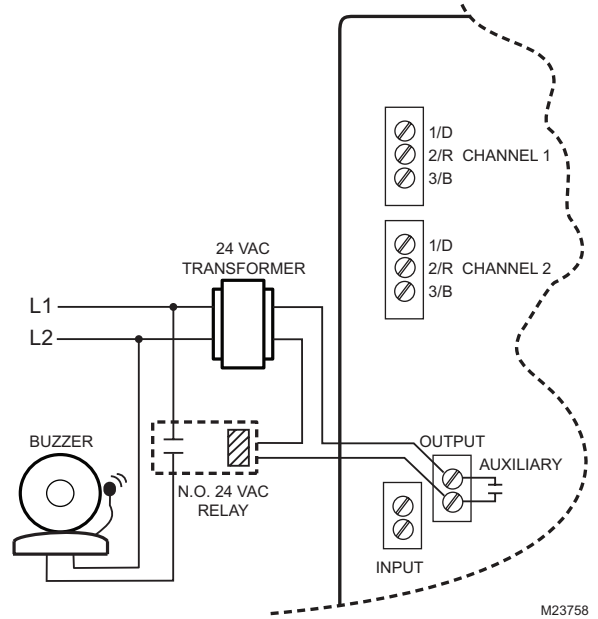
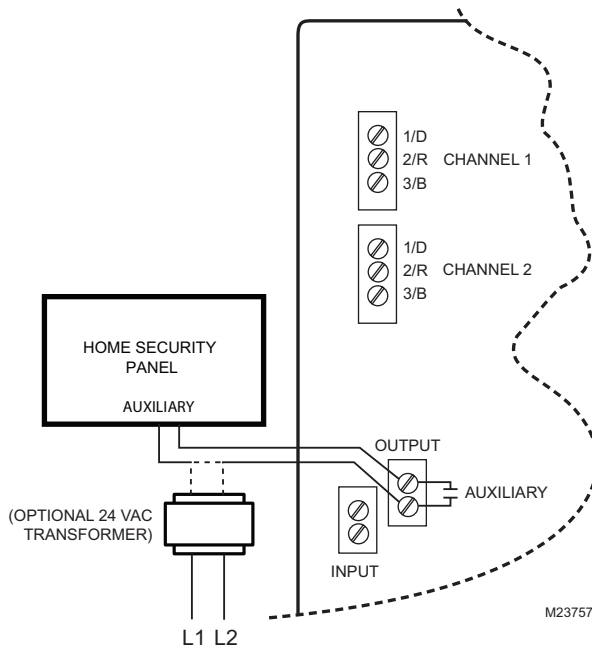

Fig. 17. Wiring the AUX-OUT Terminal Block to Line Voltage Annunciating Device (Buzzer).
Fig. 16. Wiring the AUX-OUT Terminal Block to a Home Security Panel.
The Auxiliary Output closes in the event an alert condition is detected from the W8735D or from the Auxiliary input. The output remains closed until the user acknowledges the alert condition even though the condition itself may have been cleared beforehand. Use the Auxiliary Output terminal to interface with a lamp or buzzer to locally indicate an alert condition (see Fig. 17 on page 11) or connect to a residential security panel in order to integrate the HVAC alerts to the home security system (see Fig. 16 on page 11).
- Connect the N.O. auxiliary output terminals to an optional home alarm system or other local alert enunciation device. See Fig. 16 on page 11.
- Use a 24 Vac relay if the enunciating device operates at line voltage. See Fig. 17 on page 11.
NOTE: For the wiring in Fig. 16, be sure to check the exact connections with the Home Security Panel Installation Instructions-Auxiliary Devices.